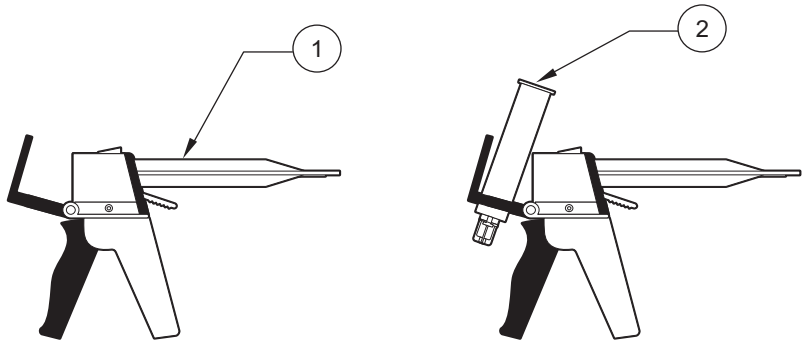

Figure 38 Loading the Cartridge into the Dispensing Gun
3. Load the oil cartridge into the dispensing gun (Figure 38).